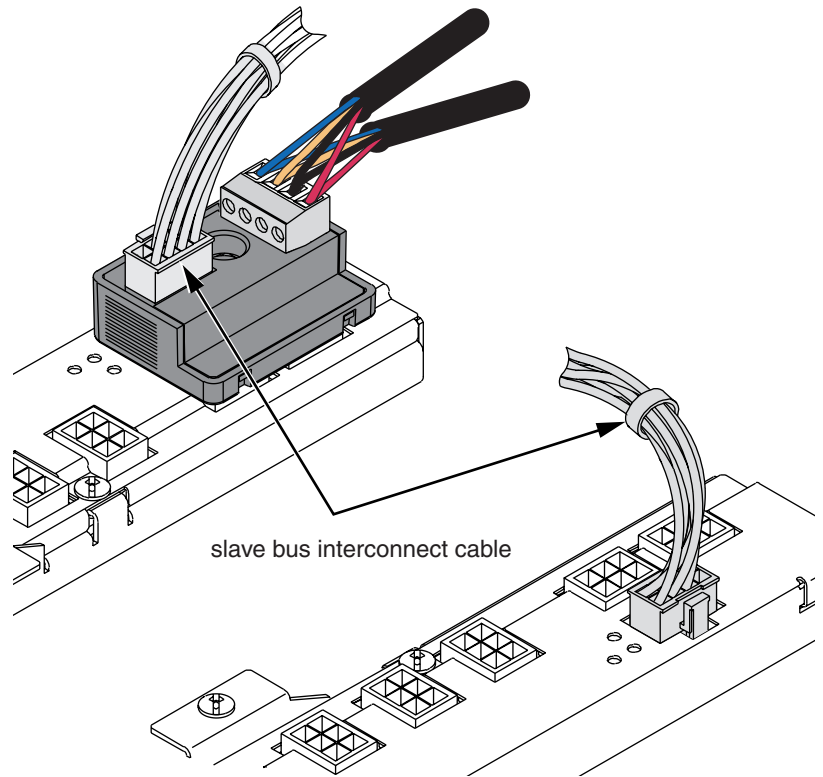

Figure 7: Plugging in the slave bus interconnect cable
3. If a left control bus is present, a slave bus interconnect cable NF2HG3 is used to connect the right control bus to the left control bus. Push one of the connectors from the cable into the slave bus interconnect cable connection on the slave address selector (see Figure 7).
4. Push the other end of the slave bus interconnect cable into the slave bus interconnect cable connection on the right control bus (see Figure 7).